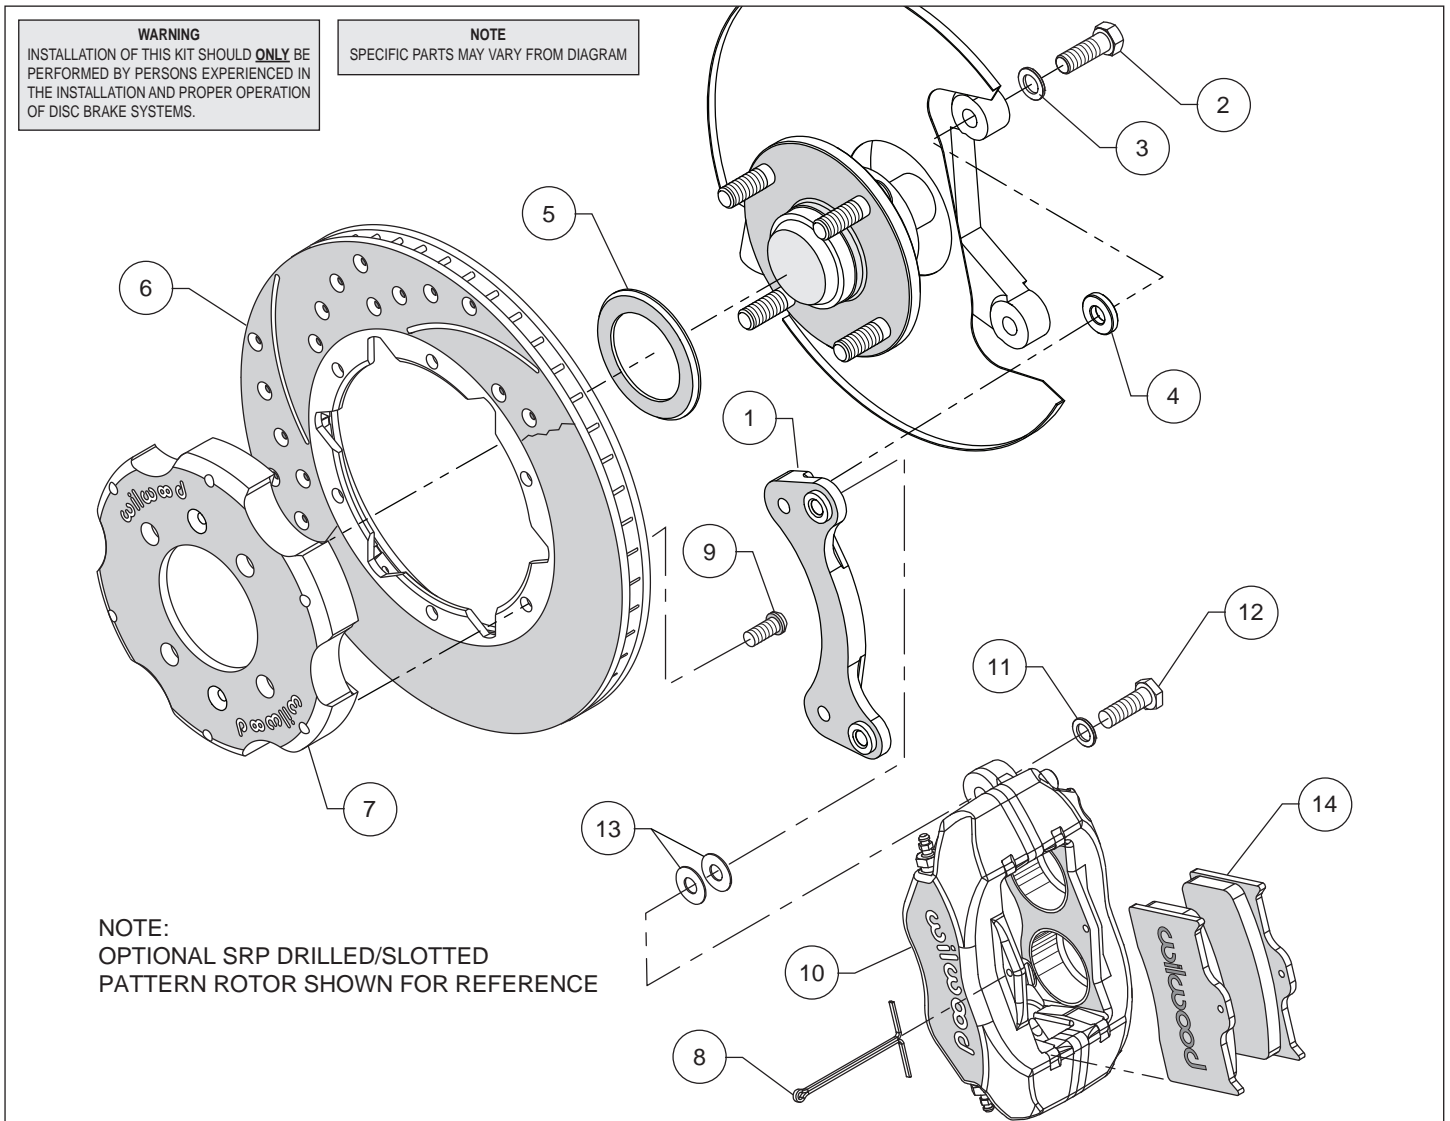
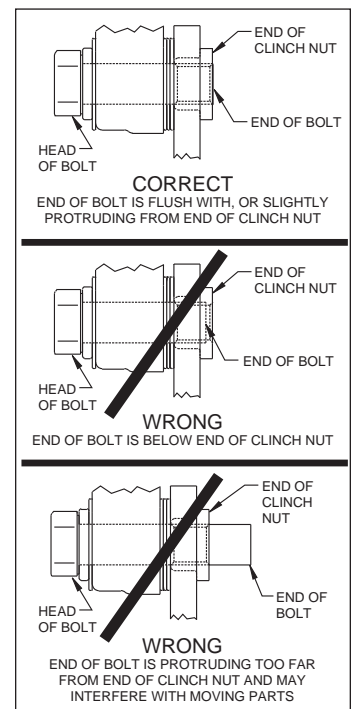

Figure 1. Typical Installation Configuration
Figure 3. Clinch Nut Engagement Diagram
Assembly Instructions (numbers in parenthesis refer to the parts list and Figure 1 on the preceding pages): **CAUTION:** All mounting bolts must fully engage clinch nuts. Be sure to check that all bolts are either flush or protruding through flanged side of clinch nut after shimming, Figure 3.
- Orient the caliper mount bracket (1) as shown in Figure 1 and Photo 1, and install using bolts (2) and washers (3). Place a spacer (4) on each bolt between the bracket and caliper mounting bosses, Figure 1 and Photo 2. Ensure that the flanged heads of the clinch nuts in the bracket are facing outboard, Photo 1. Temporarily tighten the mounting bolts. **NOTE:** The bracket must fit squarely against the mount bosses on the upright. Inspect for interference from casting irregularities, machining ridges, burrs, etc. Remove bolts one at a time, apply red *Loctite*[®] 271 to the threads and torque to 30 ft-lb.
- Orient the rotor (6) and the hat (7) as shown in Figure 1 and Photo 3. Attach rotor to hat using bolts (9). Using an alternating sequence, apply red *Loctite*[®] 271 to the threads, and torque to 25 ft-lbs.
- Slide the rotor registration adapter (5) onto the axle register on the axle hub with the smaller O.D. facing toward the rotor/hat (6/7), Photo 4. Slide the hat/rotor assembly onto the axle hub. **NOTE:** The hat must fit flush against the axle hub flange or excessive rotor run out may result. Install three lug nuts (finger tight) to keep the hat/rotor assembly in place while continuing with the installation.
- **NOTE:** Please reference the caution statement at the beginning of the assembly instructions. Mount the caliper (10) onto the caliper mounting bracket (1) using bolts (12) and washers (11), as shown in Figure 1. Initially place two .035" thick shims (13) on each bolt between the caliper and the bracket, Photo 5. Temporarily tighten the mounting bolts and view the rotor (6) through the top opening of the caliper. The rotor should be centered in the caliper, Photo 6. If not, adjust by adding or subtracting shims between the bracket and the caliper. Always use the same amount of shims on each of the two mounting bolts. **NOTE:** The end of each bolt must be flush with or slightly protruding from the head of the clinch nut, as shown in Figure 3. If necessary place spare shims between washer (11) and caliper mounting ear to achieve the proper clinch nut engagement. Once the caliper alignment and clinch nut engagement are correct, remove the bolts one at a time, apply red *Loctite*[®] 271 to bolt threads, and torque to 40 ft-lb.